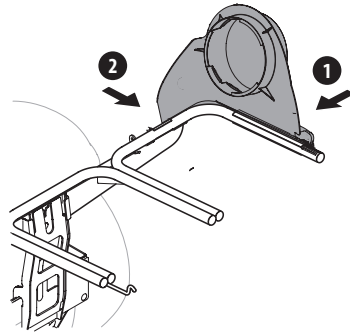

Figure 7
1. Snap the upper chute support (731-17091A) in place by first clipping the side portion onto the hanger assembly rail (1). See Figure 7.
2. Snap the front side of the upper chute support to the rail (2), as shown in Figure 7.